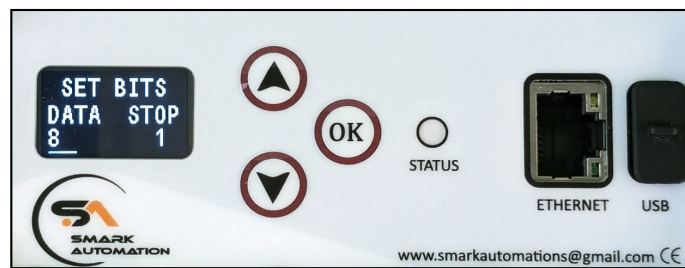

Figure 29: Configuring Data and Stop bit for XT COM CONF
3. **Select Baud Rate:** Choose the baud rate from the available options. Use the up and down arrow keys to select from the following rates: 4800, 9600, 19200, 57600, and 115200 bits per second (bps) with the default setting being 19200 bps. Press OK to set the selected Baud Rate and the user will then be prompted to set the Data and Stop bit, as shown in Fig 29.